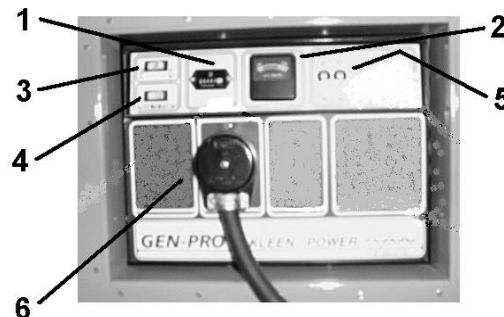

FIGURE 6 – Receptacle Panel
The receptacle panel is to be used if you plan on supplying power to the air conditioner via the motor/gen-set. **Figure 6** is a description of all nine parts of the receptacle panel. The receptacle panel is located on the tongue end of the MACH-IV.
- b. Motor/Gen-Set – Insert plug into motor/gen-set as shown in **Figure 6 – Receptacle Panel.**
- a. If using generator set, locate the "Press-to-Start" rocker switch and the "Stop-Run" rocker switch as mounted on top left hand side of receptacle panel. See **Figure 6 – Receptacle Panel.**
- c. Move the "Stop-Run" switch to the run position (no action will take place). Move the "Press-to-Start" switch to "Start". This is a spring loaded momentary switch and it must be held in the "Start" position. The engine will begin to crank. When the engine starts, continue to hold this "Press-to-Start" switch for (5) seconds, then let go of the switch. It returns to its original neutral position and engine continues to run.